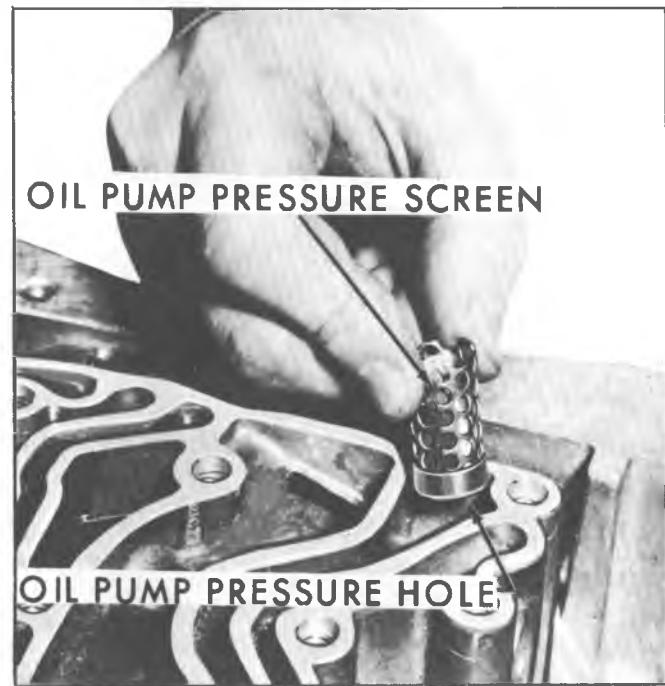

Fig. 7A-19B--Removing Oil Pump Pressure Screen
5. Remove four (4) check balls from correct passages in case face (fig. 7A-18B).